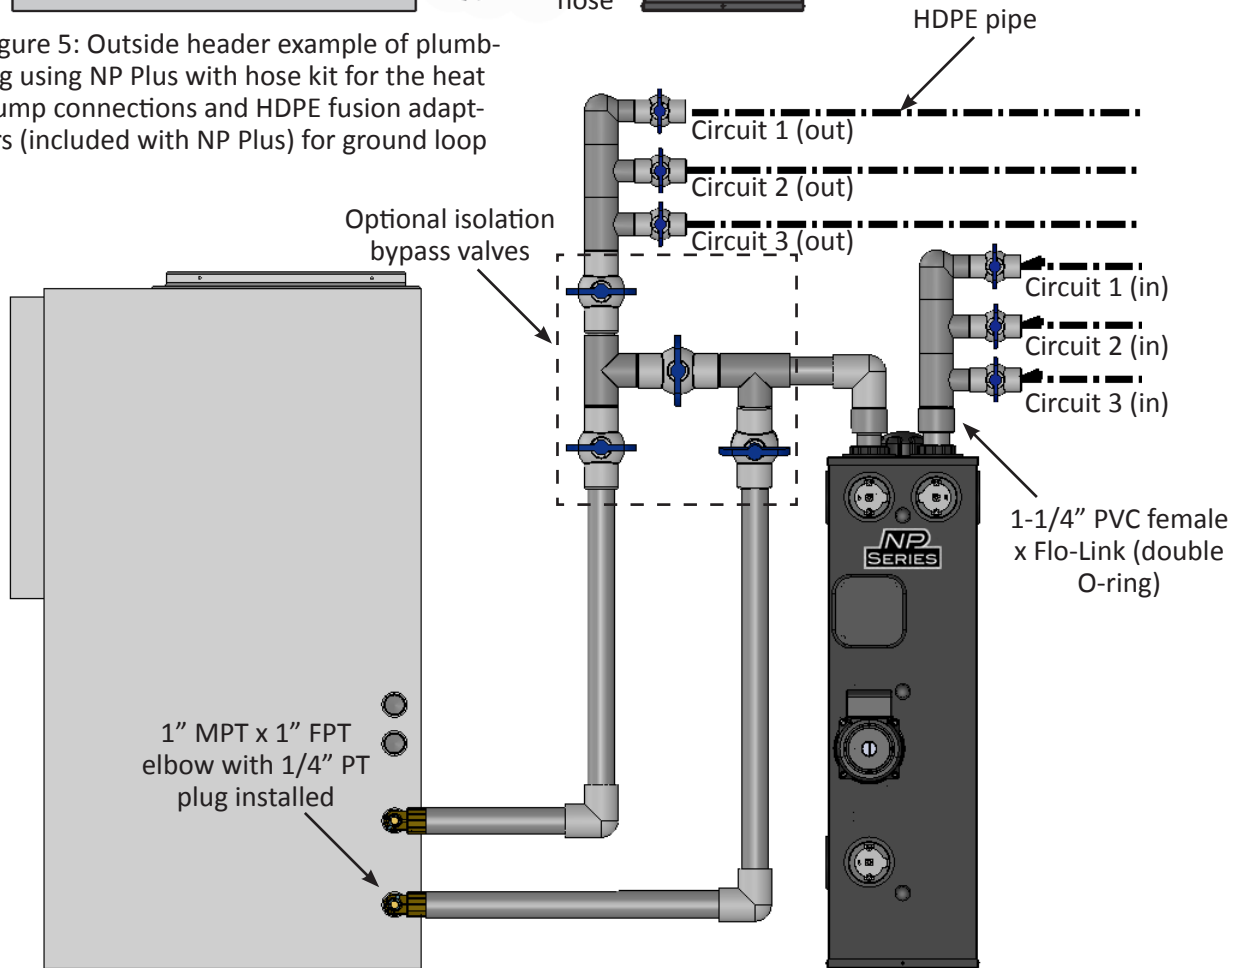

Figure 6: Inside header example of plumbing using NP Series with PVC for interior piping and inside headers
- **NP Flow Center:** The NP Flow Center (shown on the right) is the original product. With the introduction of the NP Plus (see below), the NP Flow Center is now better suited to installations with inside headers (see Figure 6). HDPE fusion, PVC glue, threaded adapters, and other types of Flo-Link fittings are available to connect the flow center to the header piping and heat pump. **The NP Flow Center does not ship with any fittings.**
Figure 5 shows a standard piping configuration utilizing HDPE and a flexible hose transition to the heat pump . This configuration allows simple installation, and vibration isolation between the heat pump and flow center. The external insulated 3-way valve (included with NP Plus) allows the heat pump to be isolated from the loop, and allows the loop to be flushed independent of the heat pump. This can be useful when the flow center is installed prior to the heat pump. Figure 6 shows a piping configuration utilizing PVC pipe and internal headers. The optional bypass valve(s) allow the ground loop to be isolated from the heat pump. In addition, they allow the ground loop to be flushed independent of the heat pump. Note that the options shown are valid whether inside or outside headers are used.
NOTE: If a Geo-Gooser tool is not available, the following procedure can still be followed. However, instead of adding fluid through valve #3, fluid will be added through the top of the tank. In this case, valve #3 will remain in the 9-o'clock position throughout the process. The following instructions assume the NP Flow Center has been plumbed as shown in Figure 6. If the flow center has been plumbed with discharge and/or return pipes in the sides of the flow center, the valve positions described will vary. It is important to understand the flow through the valves before proceeding. See the General Description on page 2 of this IOM for detailed description of the valves' operation.